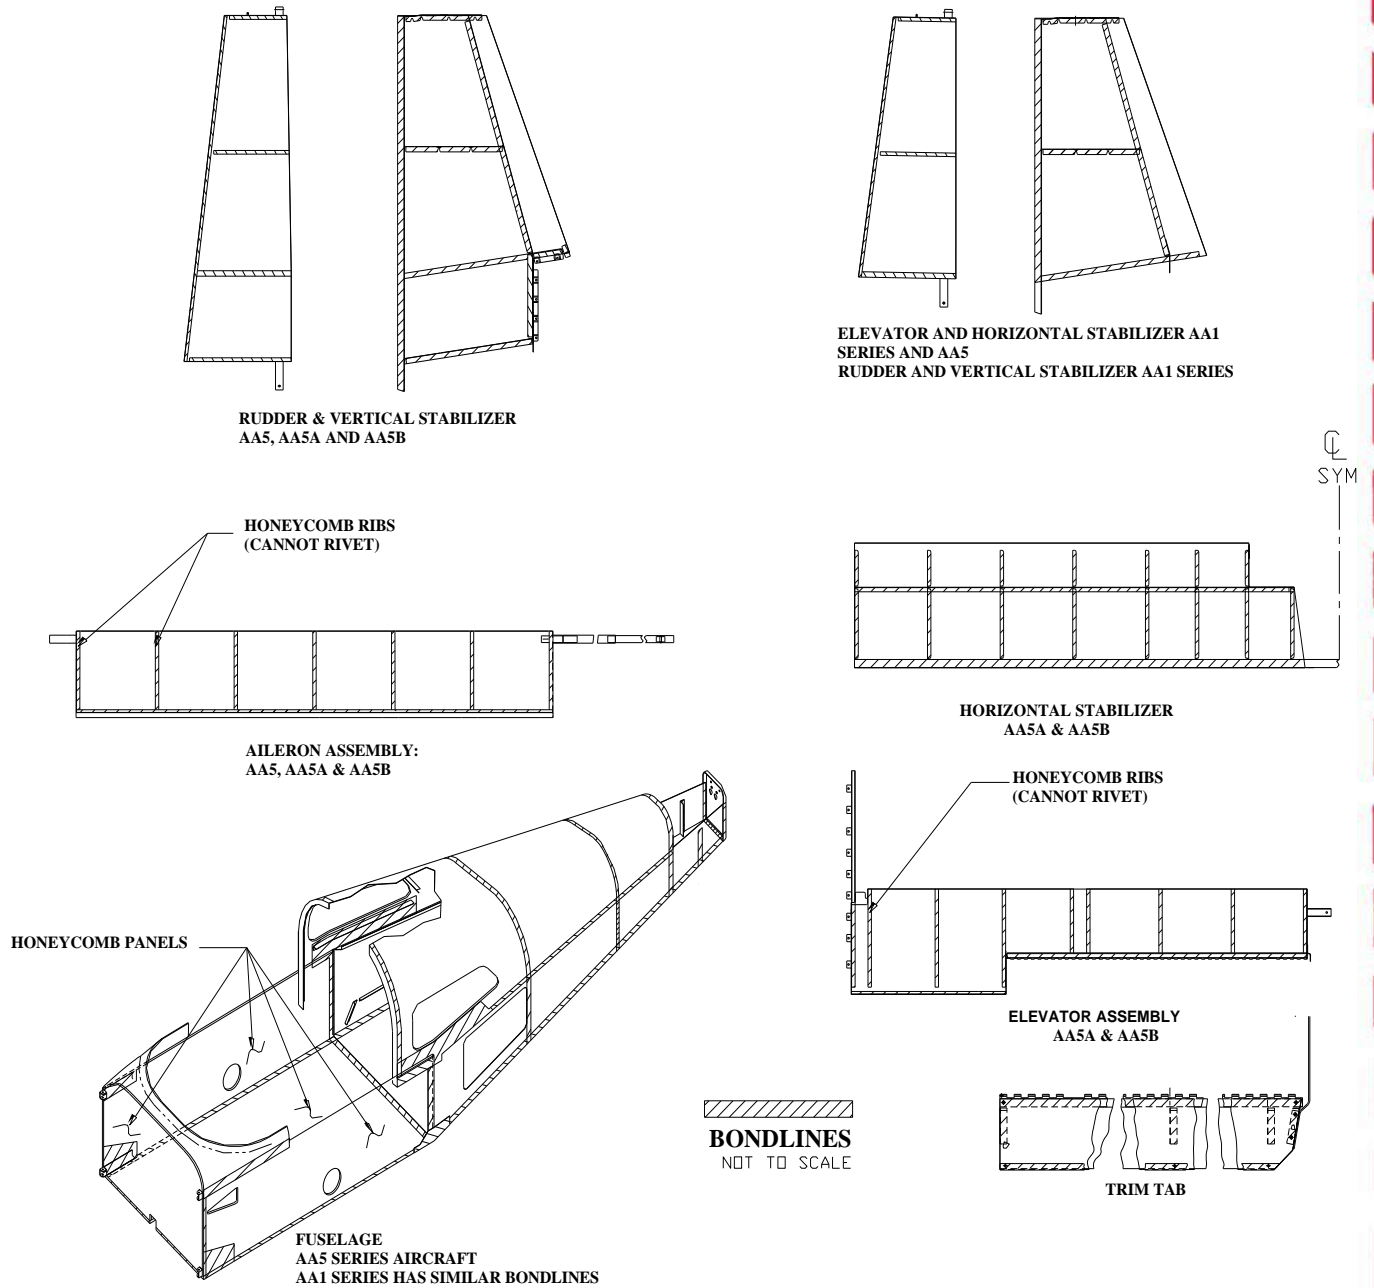
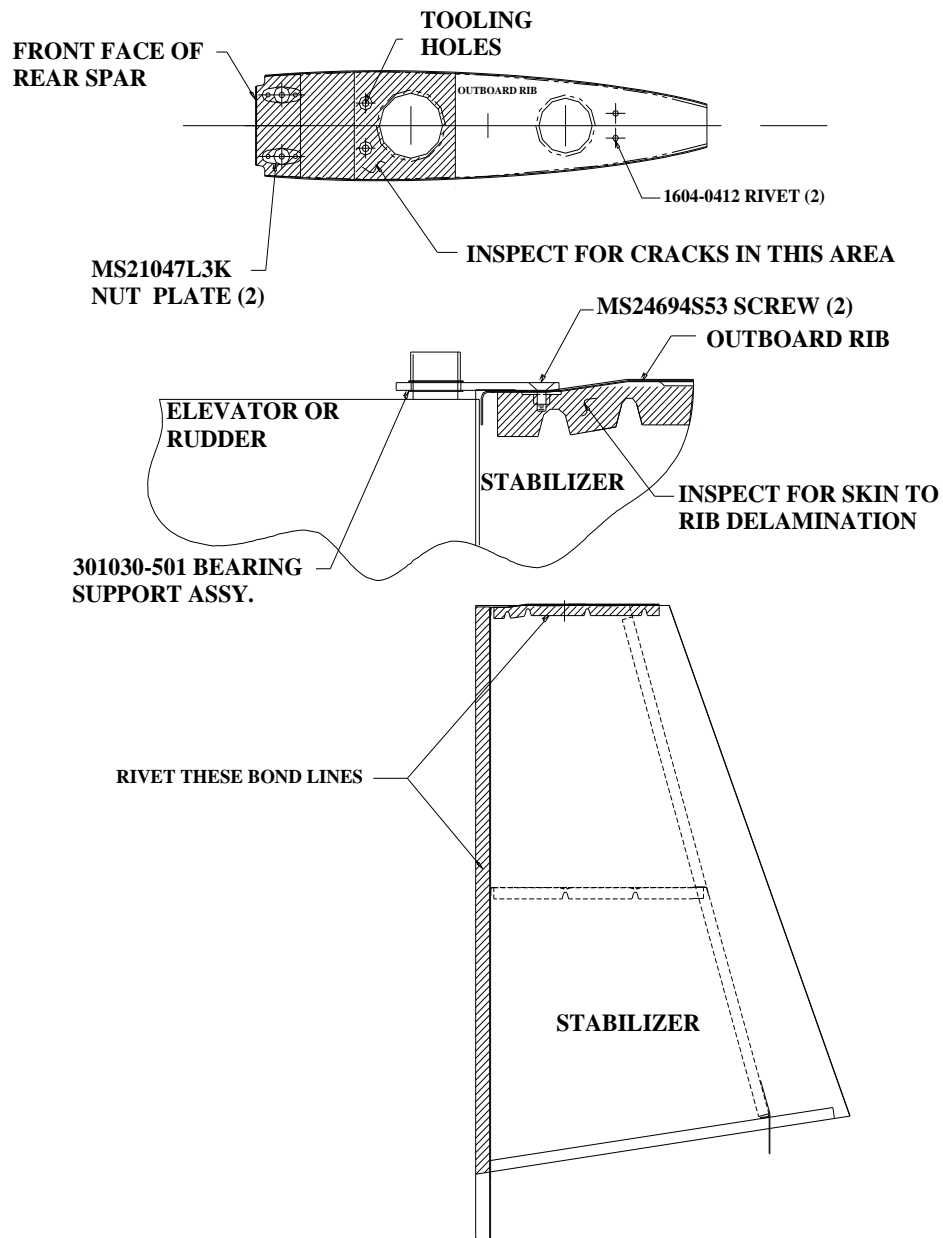

**FIGURE 1
**FIGURE 2
1. Carefully inspect all bondlines of the wings, stabilizers and fuselage (Figure 2 & 3) for bondline separation using the "Tap Test" method. With a coin or similar object, tap the length of each bondline while listening for a change in tone as the area is traversed. A bondline separation will produce a flat or hollow sound when tapped in the delaminated area. Mark delaminated areas with a grease pencil on the outer surface. (Figure 1)
6. Inspect the interior of the wings, stabilizers and aft fuselage for corrosion. If only light surface corrosion (white ash appearance) is found, proceed to step (7). If major corrosion (blisters, flaking, cracks or holes in the metal) is found, make repairs as required in accordance with the maintenance manual Chapter 20 or install a replacement, serviceable part then proceed to step (7).